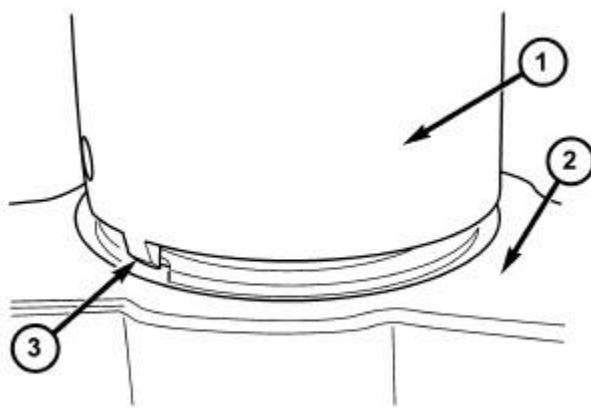

Fig. 84: Stake Output Shaft Nut
40. Press downward on the staking tool (1) until the staking pin (3) contacts the output shaft nut flange (2). Refer to **Fig. 84**.